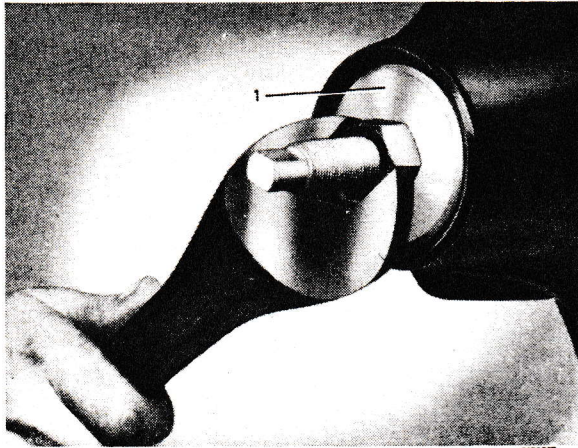

Fig. 21. Fitting the bearing races.
3. Replace the number of shims (30) for the rear pinion bearing outer race which were there before disassembly in the casing and then press in the outer races with the help of tool SVO 4047, see Fig. 21.
4. Place the pinion in the casing and fit the same number of shims (26) which were there when disassembling and then fit the forward pinion bearing (27). Fit the wrench SVO 2404 and the press tool SVO 1845 on